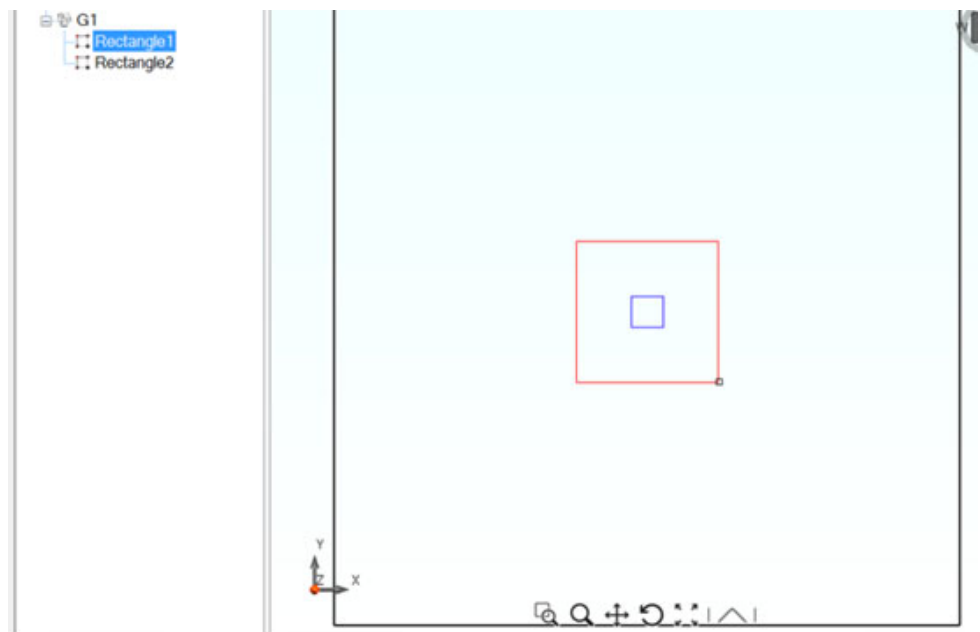

Figure 37: Mouse Resize Feature
3. Drag the mouse to resize the object. See Figure 37 (below).